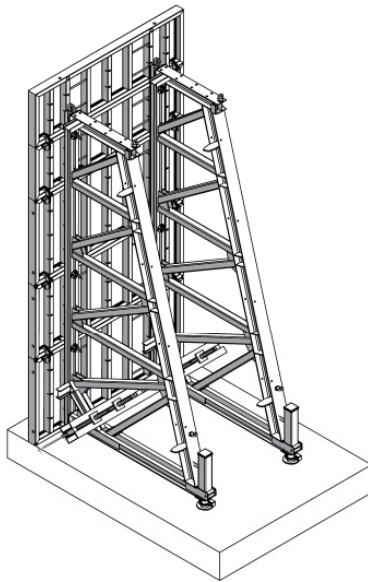
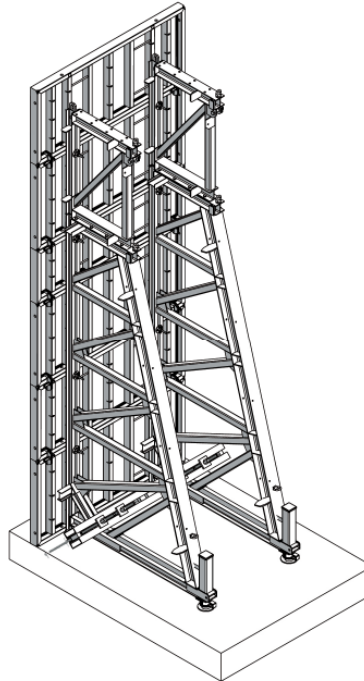
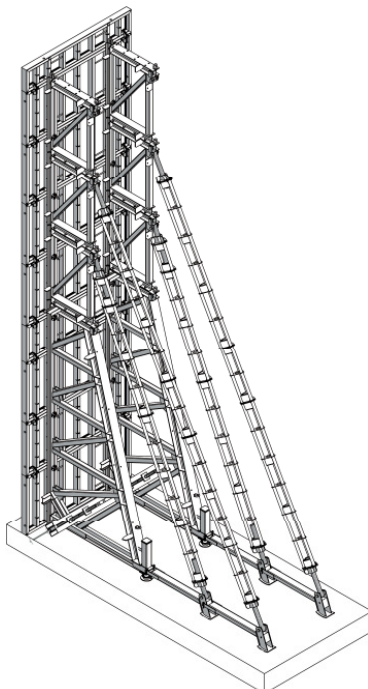
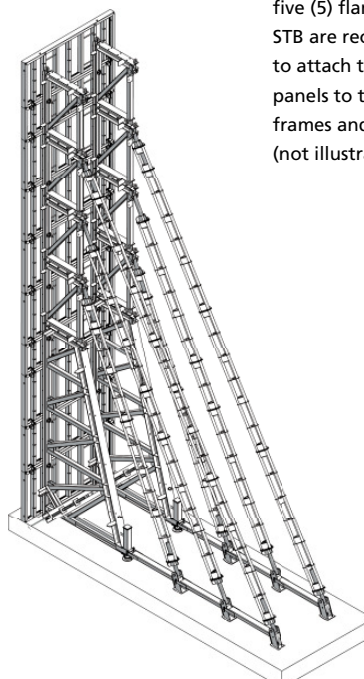

Fig. 5.1: STB 450 up to a height of 17'; three (3) flange screws per STB are recommended
Fig. 5.2: STB 450 up to a height of 22'; four (4) flange screws per STB are recommended
Fig. 5.3: STB 450 up to a height of 31'; six (6) flange screws per STB are recommended
Fig. 5.4: STB 450 up to a height of 36'; seven (7) flange screws per STB are recommended
The STB 450 is designed for single-sided formwork up to a height of 17' (Fig. 5.1). By using a STB 450 support frame and an additional height extension 150 single-sided formwork up to a height of 22' can be erected (Fig. 5.2). One (1) STB 450 plus three (3) height extensions 150, two (2) base extensions and two (2) Triplex heavy duty braces are necessary to form a height of 31' (Fig. 5.3). One (1) STB 450 plus four (4) height extensions 150, three (3) base extensions and three (3) Triplex heavy duty braces allow for a height of 36' (Fig. 5.4).